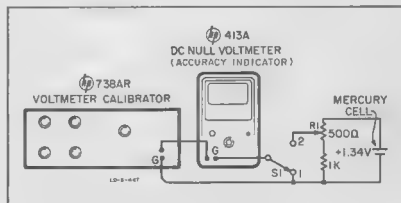

Figure 5-7. Preliminary Test Setup
- Connect a voltage calibration generator to a 313A or 412A test voltmeter and battery circuit as shown in figure 5-7. This test voltmeter will hereafter be called the accuracy indicator.
- Set S1 in figure 5-7 to position 1.
f. If the accuracy indicator has a zero control (as in figures 5-7 and 5-8), adjust the ZERO control for zero on the meter. At the same time set S1 to position 2 and voltmeter calibrator function switch to DC+.